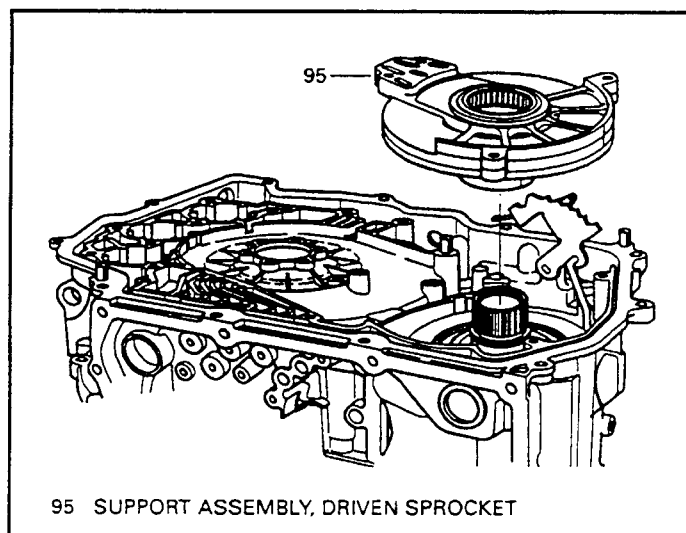

Figure 161
10. Install the completed driven sprocket support into the transaxle case as shown in Figure 161.